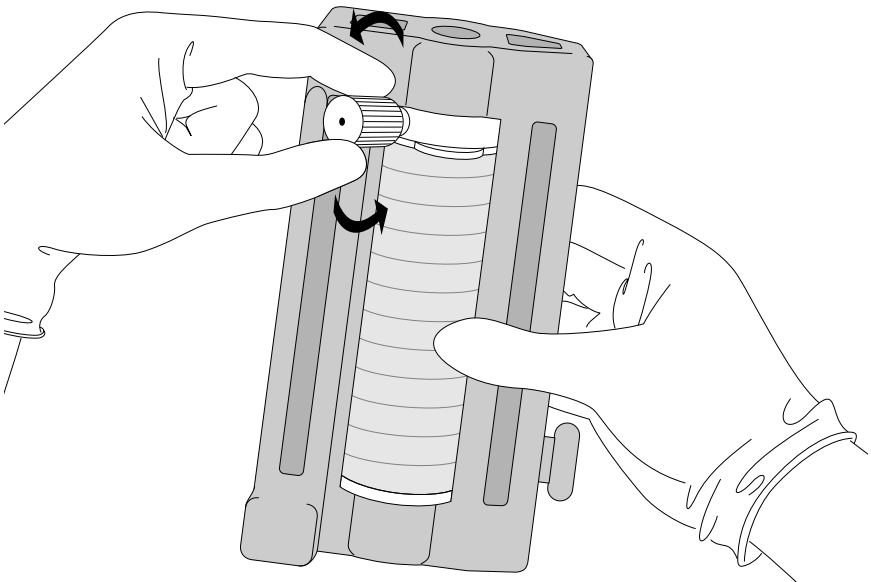

Figure 10. Venting an HP-500 Plus
2. Vent vessels by grasping the support module with one hand and loosening the Teflon vent fitting by slowly turning it in a counterclockwise direction as illustrated in figure 10. A series of slow, partial turns of the fitting will permit decomposition gases and acid vapor to escape through the vent fitting. Do not rapidly loosen the vent fitting by multiple turns. This will permit gases to exit down the threads of the fitting.